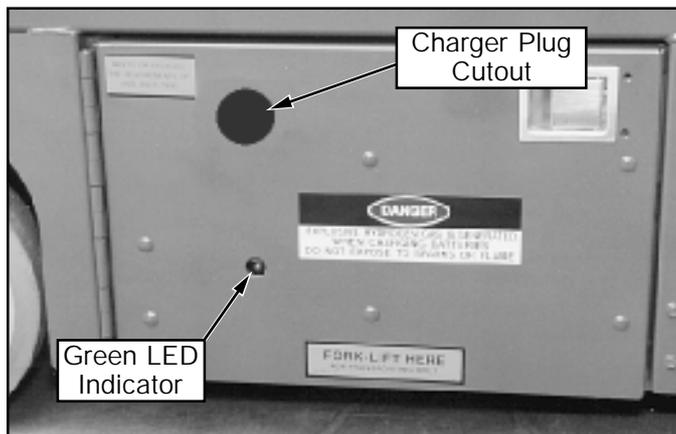

Figure 6: Chassis Module, Right Side
3. Connect extension cord (1.5 mm² (12 gauge) conductor minimum and 15 m (50 ft.) in length maximum) to charger plug located through cutout at the left side of the chassis (Figure 6). Connect extension cord to properly grounded outlet of proper voltage and frequency.